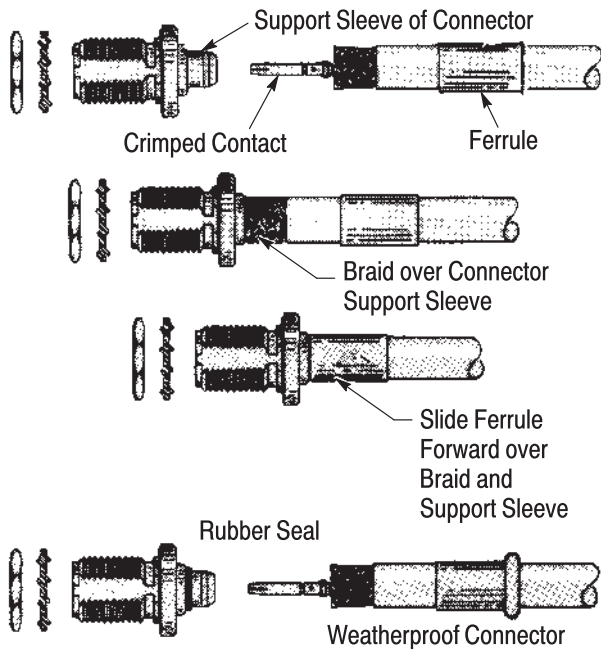

Figure 3
2. ASSEMBLY PROCEDURE (Figure 3)